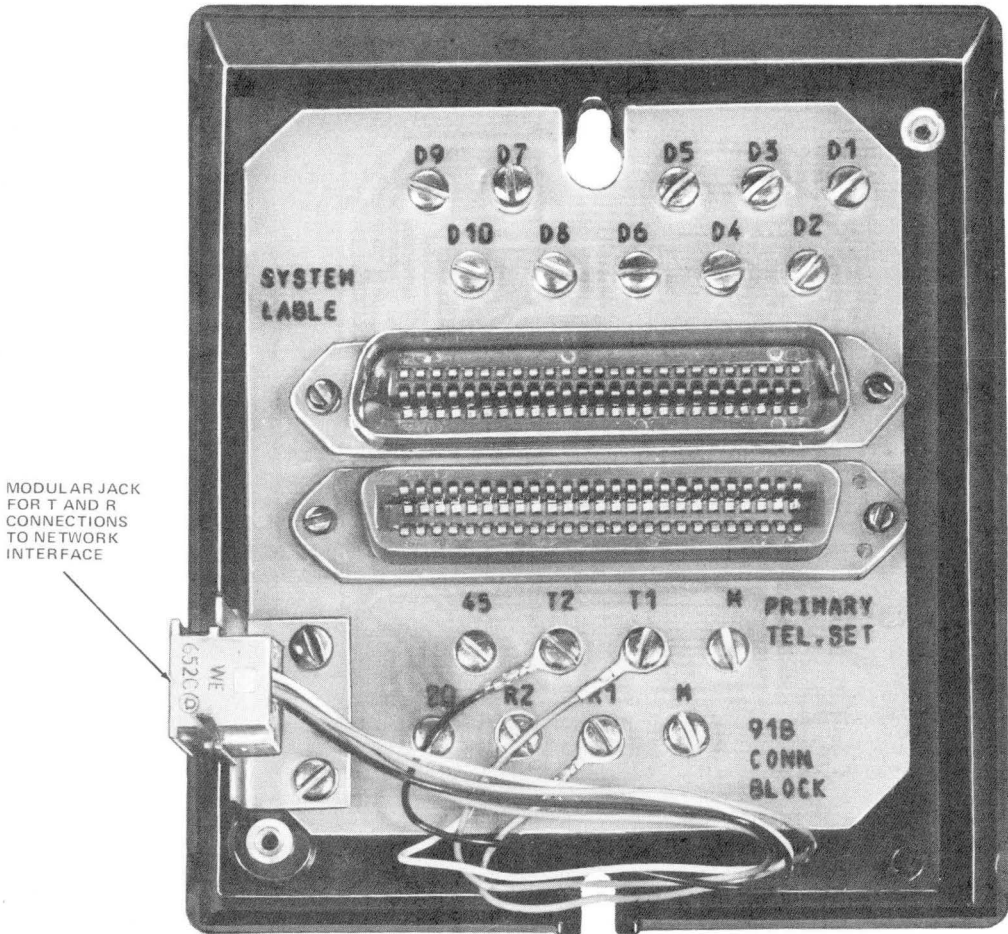

Fig. 10—91B Connecting Block
**3.03** In all installations, regardless of the cabling method used, a primary station is connected into the system by plugging its 7-foot mounting cord into the associated 91B connecting block (Fig. 10). The 91B block also provides a modular jack for connection to the network tip and ring interface with a D4BU cord.